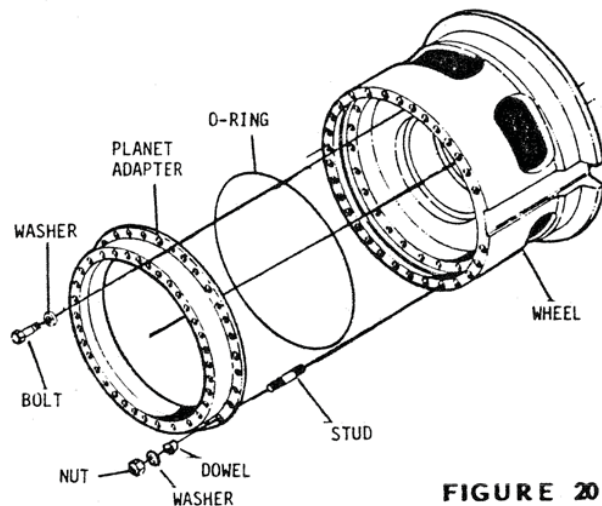

FIGURE 20
8. Install the planet adapter (Figure 20) to the wheel using a light coat of grease on the o-ring seal to hold it in place. Torque the 3/4" studs to 70 foot pounds. Install tapered dowels, washers, nuts and mounting bolts. Torque the 3/4 NF nuts and bolts to 280 foot pounds lubed. Install the 3/4" drain plug into the planet after using hydraulic sealant on the threads.